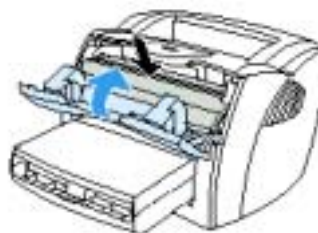

Figure 6. Inserting the Cartridge
6. Insert the new toner cartridge in the printer, making sure that the toner cartridge is in the correct position. Figure 6 shows where to insert the toner cartridge.